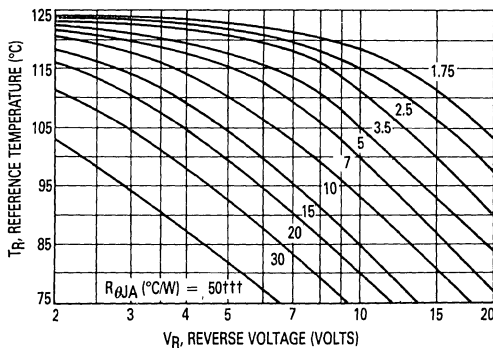

Figure 1. Maximum Reference Temperature — 1N5829
Figures 1, 2 and 3 permit easier use of equation (1) by taking reverse power dissipation and thermal runaway into consideration. The figures solve for a reference temperature as determined by equation (2):
Inspection of equations (2) and (3) reveals that  $T_R$  is the ambient temperature at which thermal runaway occurs or where  $T_J = 125^\circ\text{C}$ , when forward power is zero. The transition from one boundary condition to the other is evident on the curves of Figures 1, 2 and 3 as a difference in the rate of change of the slope in the vicinity of  $115^\circ\text{C}$ .
The data of Figures 1, 2 and 3 is based upon dc conditions. For use in common rectifier circuits, Table 1 indicates suggested factors for an equivalent dc voltage to use for conservative design; i.e.: